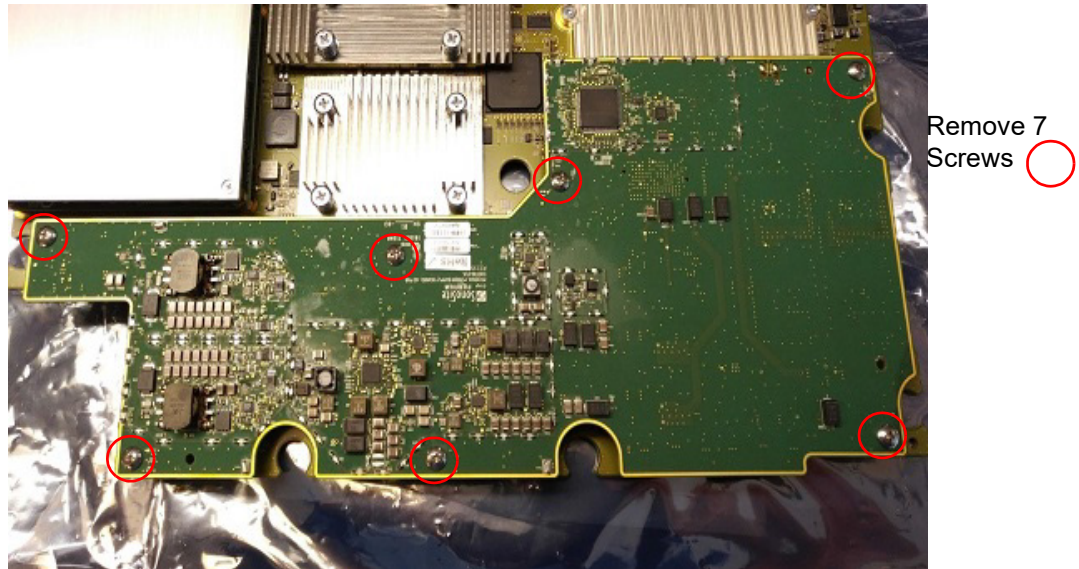

Figure 6.20 Power Supply PCBA
- 1 Use a T10 bit to Remove the 7 screws securing the Power Supply PCBA to the Main PCBA per Figure 6.20 on page 62